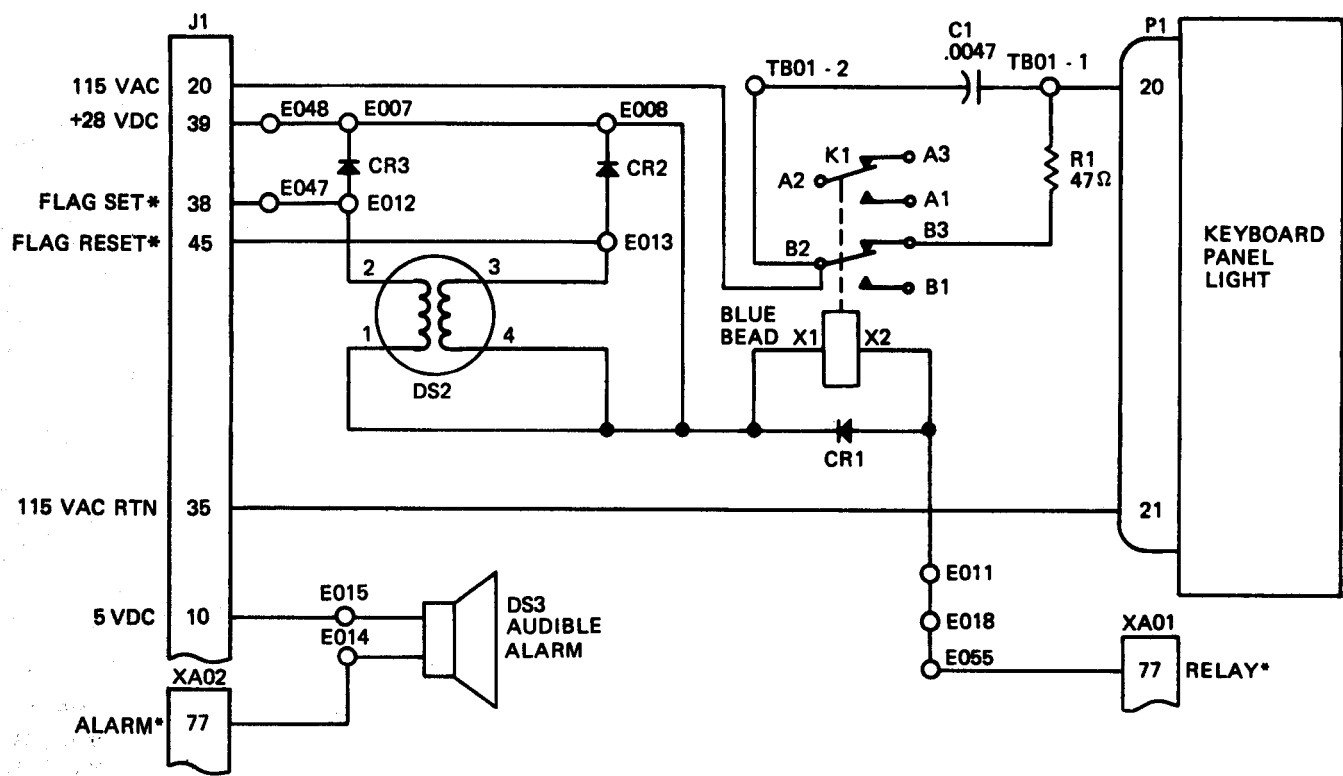

Figure 4-4. CDL) Chassis Schematic Diagram
(1) PADS test set consisting of the signal processor unit (SPU), punched tape reader (tape reader), buffer unit, interconnecting cables, and auxiliary equipment.
(2) Teletypewriter. The 100-wpm motor-worm gear must be installed prior to use. Refer to TM 11-5815-200-12.
(3) PADS power supply, computer, pallet frame, and battery box.
b. Procedure. Shown in figure 4-4 is a schematic diagram of the CDU chassis. A test setup interconnection diagram is shown in figure 4-5. Testing and troubleshooting procedures are provided in table 4-11. Figure 4-6 relates the button position on the keyboard to the wiring harness connectors for troubleshooting malfunctioning keys. Table 4-12 contains a sample TTY printout for the CDU test, Refer to table 4-13 for CDU automatic test mode malfunctions.